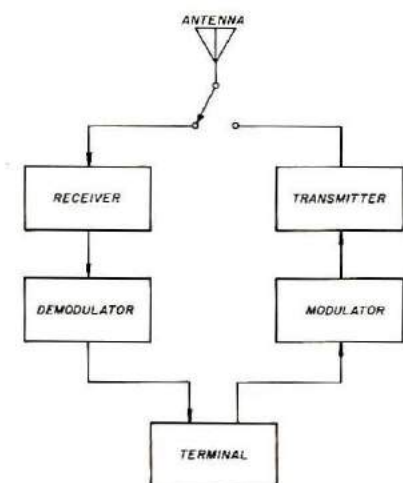

Fig. 3. Block diagram of a RTTY station.
RTTY is a very demanding mode where your transmitter and receiver are concerned. A block diagram of a basic station is shown in Fig. 3. The data from the RTTY machine is encoded for transmission by a modulator. Its purpose is to convert the pulse information of the teleprinter coding into audio- or frequency-shift signals. Transmission of these signals is hard on the transmitter because FSK transmission is equivalent to holding the key down continuously during code (CW) transmission, and AFSK is the same as equivalent voice transmission on a-m or fm.